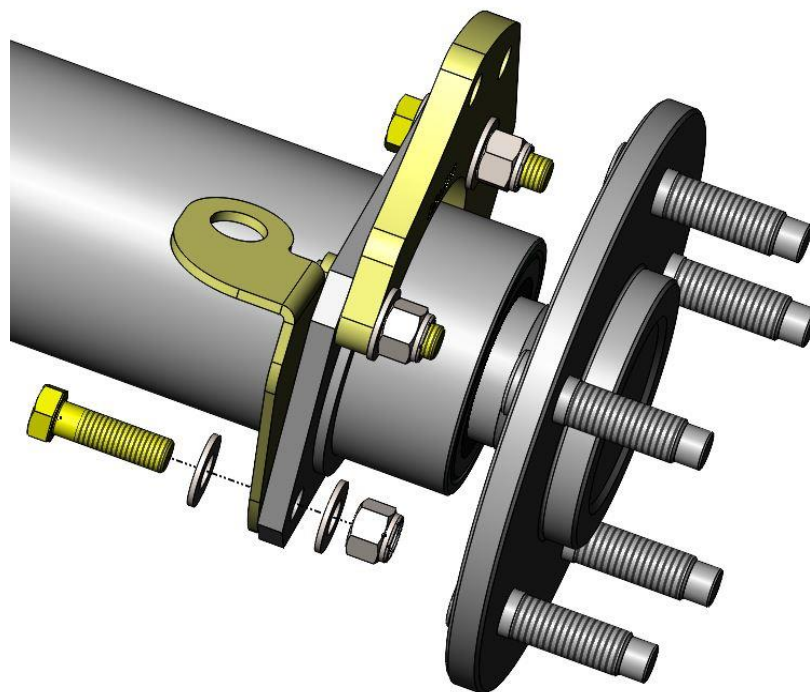

Figure 3 – Lower Brake Hose Mounting Bracket Bolt Installation
7. Insert the provided 3/8"-24 x 1.250" Grade 8 Hex Head Bolt with a 3/8" SAE Flat Washer under its head through the remaining lower hole on the Brake Hose Mounting Bracket and the axle housing flange. Once installed use a provided 3/8" SAE Flat Washer and a 3/8"-24 Nylon Lock Nut to secure it. At this point this and **ALL** of the 3/8" hardware installed in Step 6 may be torqued to 40 lb/ft. See Figure 3 below for reference.